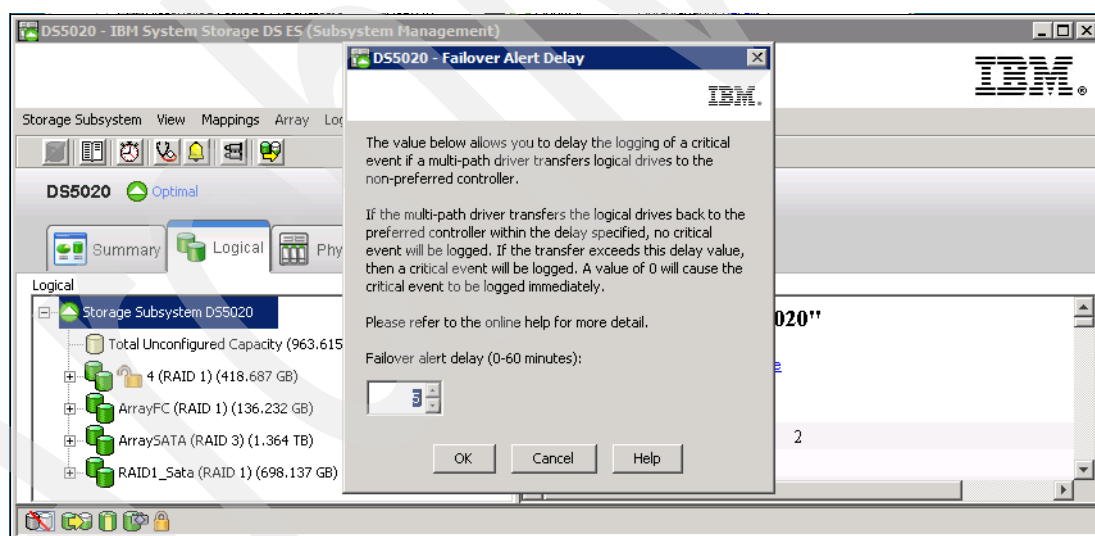

Figure 3-49 Changing the failover alert delay
1. Select the storage subsystem from the Subsystem Management window, and then select either the **Storage Subsystem** → **Change** → **Failover Alert Delay** menu option, or right-click and select **Change** → **Failover Alert Delay**. See Figure 3-49.